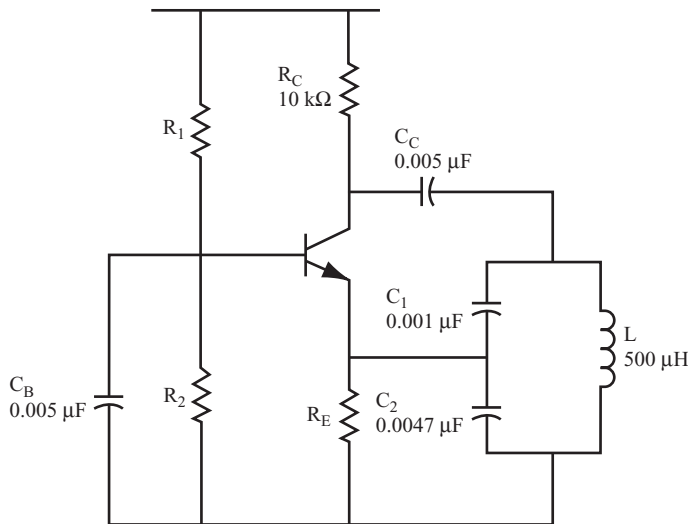

FIGURE 9.38
7. The circuit is shown in Figure 9.38.
34 The circuit you designed in problem 33 is shown in Figure 9.38.
9. For the circuit shown in Figure 9.38, calculate the values of C_1 , C_2 , C_C , and C_B for an oscillator with an output frequency of 10 kHz using a 100 mH coil.